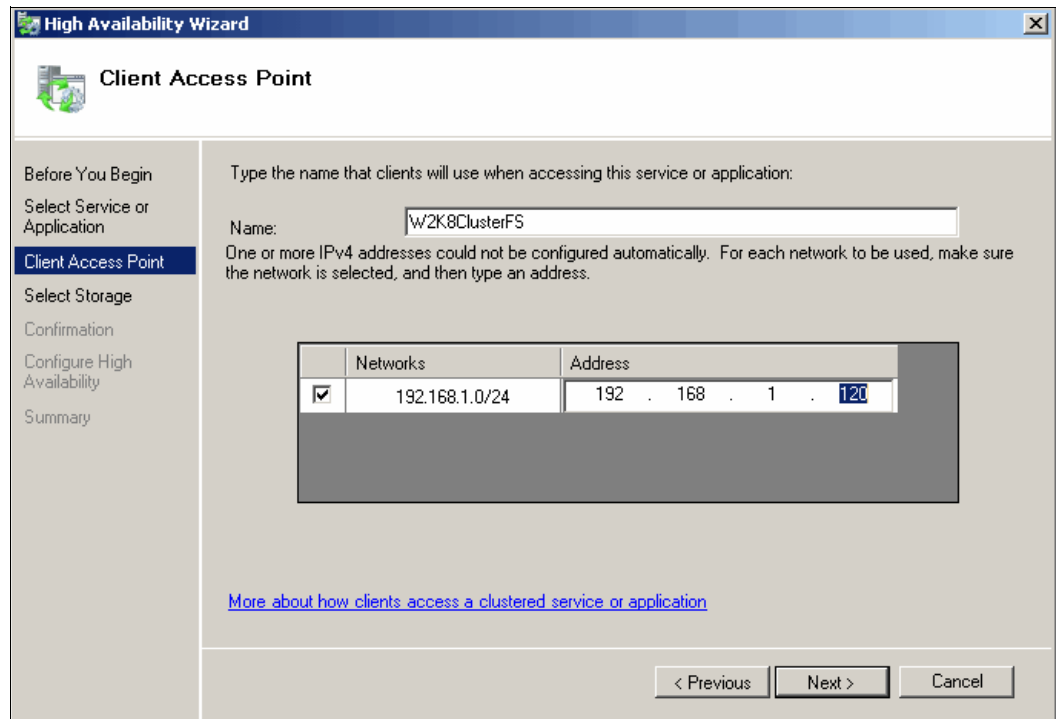

Figure 19-30 Specify a Name and an IP Address
8. Follow the instructions in the wizard to specify a name for the clustered file server and an IP address that is not automatically supplied by your DHCP settings, for example, a static IPv4 address for this clustered file server as shown in Figure 19-30 on page 580.